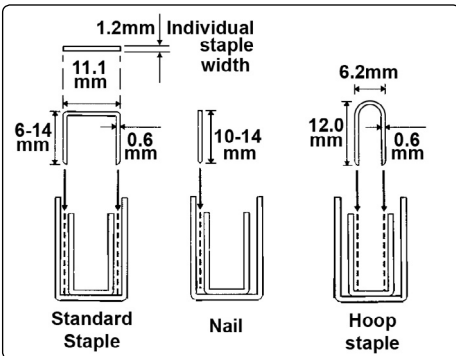

fig.5
- 4.1. Hold the stapler in one hand and point away from your body. Push in and down on the stapler feed bar and withdraw it from the stapler. Insert new staples (fig.1) or nails into the guidance track. See (fig.5) for staple placement within the track. Reinsert the feed bar and hook upwards to retain it.